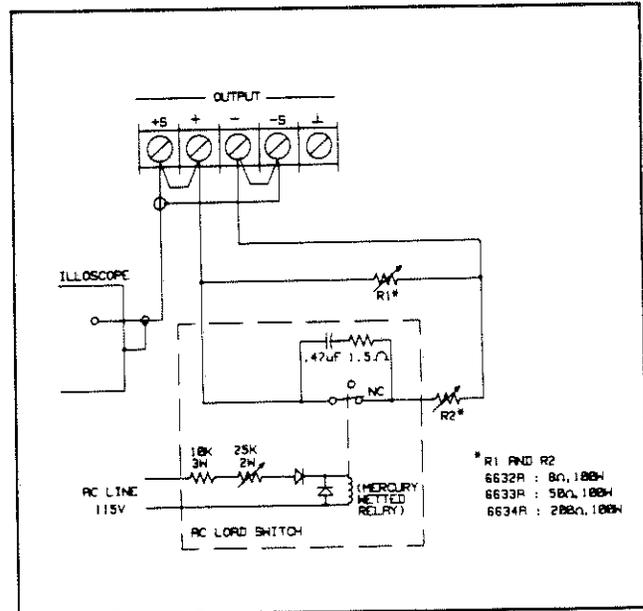

Figure 3-7. Transient Recovery Time Test Setup
- a. Turn off the supply and connect the output to be tested as shown in Figure 3-7. Make sure that the OUTPUT MODE switch on the rear of the supply is in the NORM position.